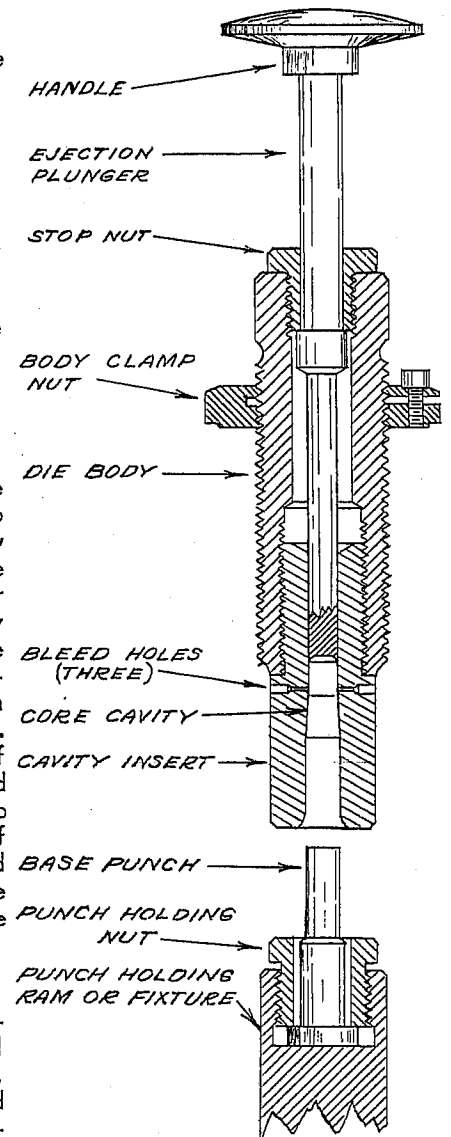

FIG. 2
**INNER CONTOURS OF JACKET HULLS.** -With but two exceptions, the inner contours of the hulls we have examined have all been quite different, and hence it has been necessary to make up special dies for each one of them. Being convinced that all bullet makers should have a knowledge of these contour differences, we are including a series of graphs (last page) showing the inner contours of all the hulls we have so far made dies for. These graphs show the inside diameters vs distances up from the bottom of the hulls, all graphs being plotted to a highly exaggerated scale to more clearly bring out their differences. Each graph represents an average of careful measurements made on numerous batches of each kind of hull. Measurements were made with a special gage designed to permit accurate measurement of both diameter and depth at all points within the hulls. From the graphs it will be seen that the inner contours so far encountered fall into three general classes: (1) Straight cylinders running all the way from the mouth down to the corner radius at the bottom; (2) Tapers, running from the mouth all the way down to the corner radius; (3) Contours which begin with a cylinder section at the bottom, then farther up the hull change to a taper which runs on out to the mouth. It will be noted that the shapes of the extreme bottoms of the hulls also vary; some are almost flat across, while others are quite rounded.
**DESIGN AND OPERATION.** -The design and operation of the B & A core forming dies will be largely obvious from the sketch shown in Fig. 2. These dies are specially designed to operate in the Pacific, the Hollywood, and the RCBS loading tools, but they can also be made to work in most of the other makes of loading tools adapted to dies having a 7/8 by 14 thread. The core cavity of each die is made to exactly match the inner contour of the hull it is to be used for, If this contour is a cylinder, then the bore of the die will also be a cylinder from end to end. On the other hand, for a hull whose inner contour contains a taper, the cavity in which the core is formed will be tapered to correspond to the taper in the hull. (The die shown represents one made for the class 3 type hulls whose inner contours contains both a cylinder and a taper section).